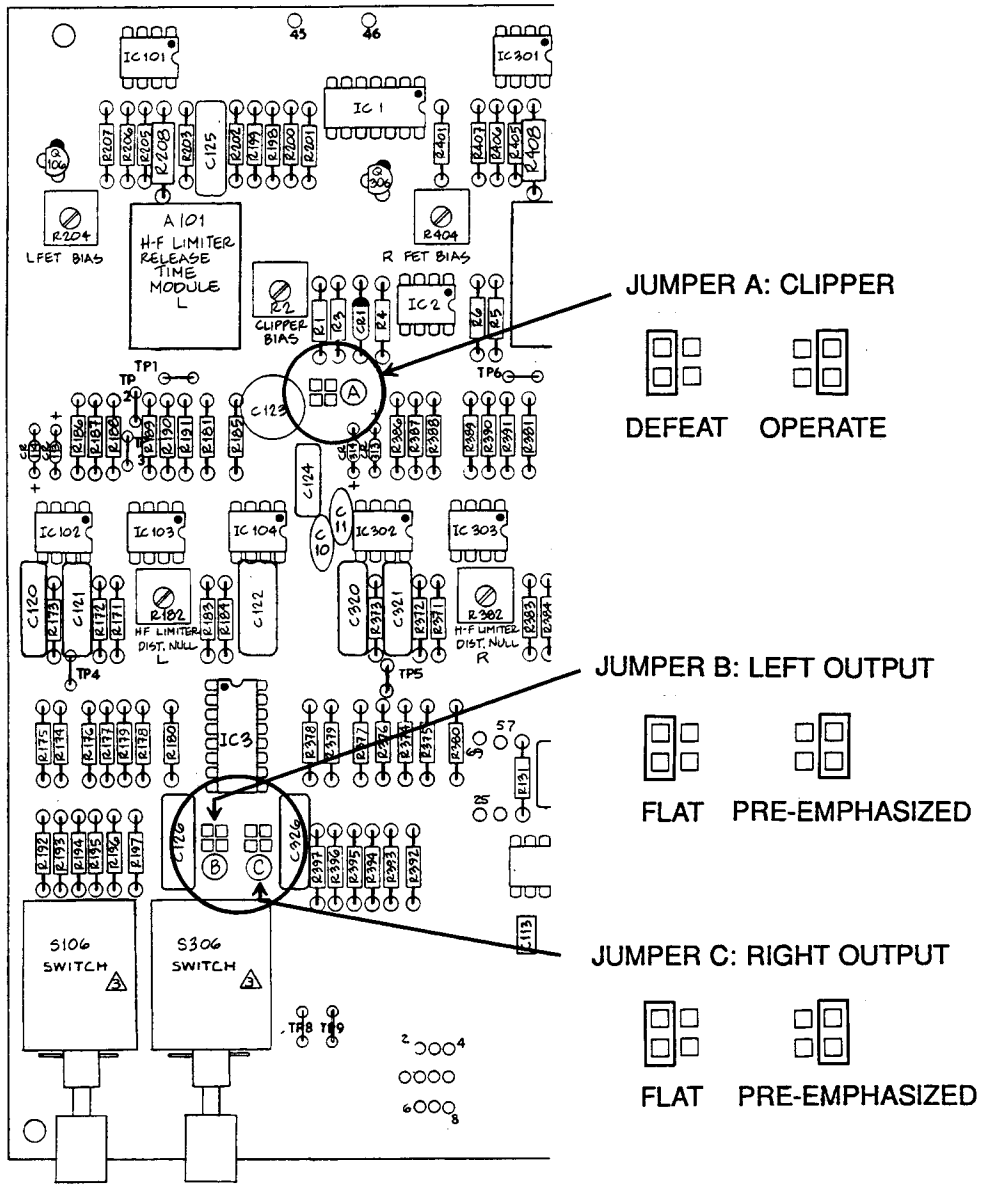

Fig. 2-1: Pre-Emphasis and Clipper Defeat Jumpers
2-3	Fig. 2-1: Pre-Emphasis and Clipper Defeat Jumpers
- a) If you want to enable the peak clippers, reposition jumper A on the main circuit board to the "OPERATE" position (see Fig. 2-1).
- b) If you want a pre-emphasized output, reposition jumpers B and C on the main circuit board to the "PRE-EMPHASIZED" position (see Fig. 2-1).
a) Place jumper A in the "OPERATE" position (see Fig. 2-1).
- b) Place jumpers B and C in the "PRE-EMPHASIZED" position (see Fig. 2-1).